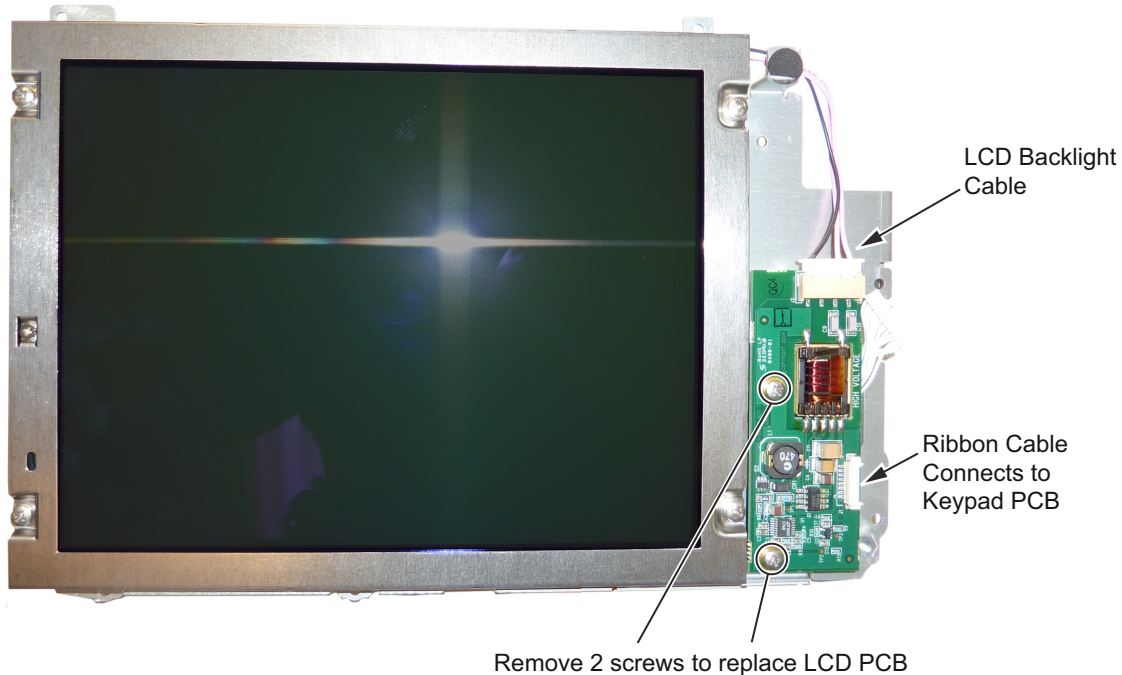

Figure 7-13. Replacing the LCD PCB
5. Use a Phillips screw driver to remove the two screws securing the LCD backlight PCB to the Main PCB assembly (Figure 7-13).